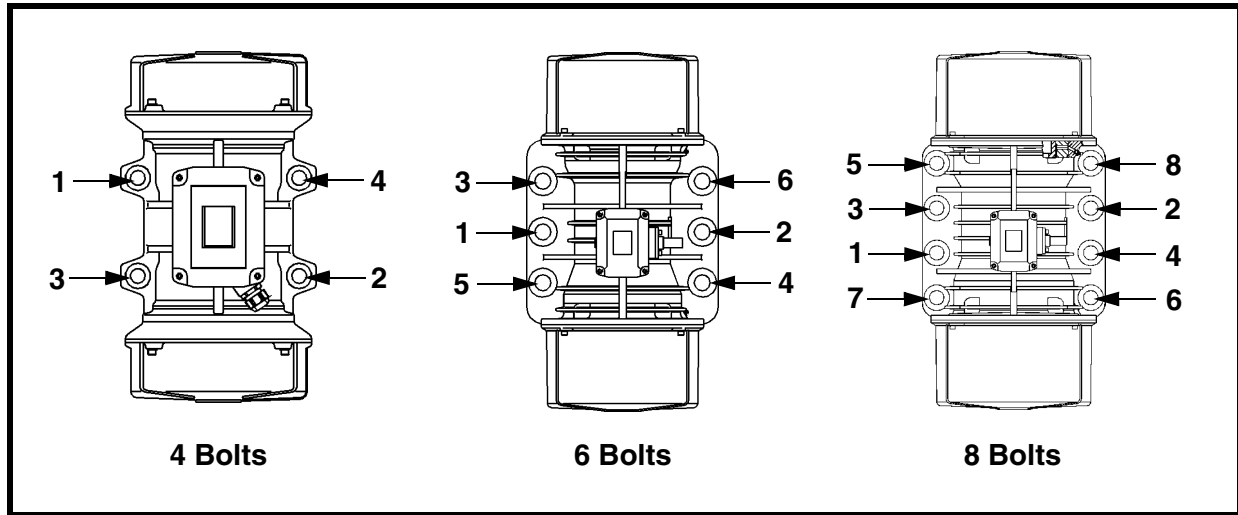

Figure 3. Mounting Bolt Tightening Sequence
Tighten mounting bolts in sequence shown in Figure 3. If not tightened in order, vibrator casting could be damaged.
6. Install vibrator onto mount with new lock nuts, compression washers, and bolts according to Table I. Tighten bolts in order given in Figure 3 to avoid damaging vibrator casting. (Contact fastener manufacturer for specific information regarding bolt torque.)